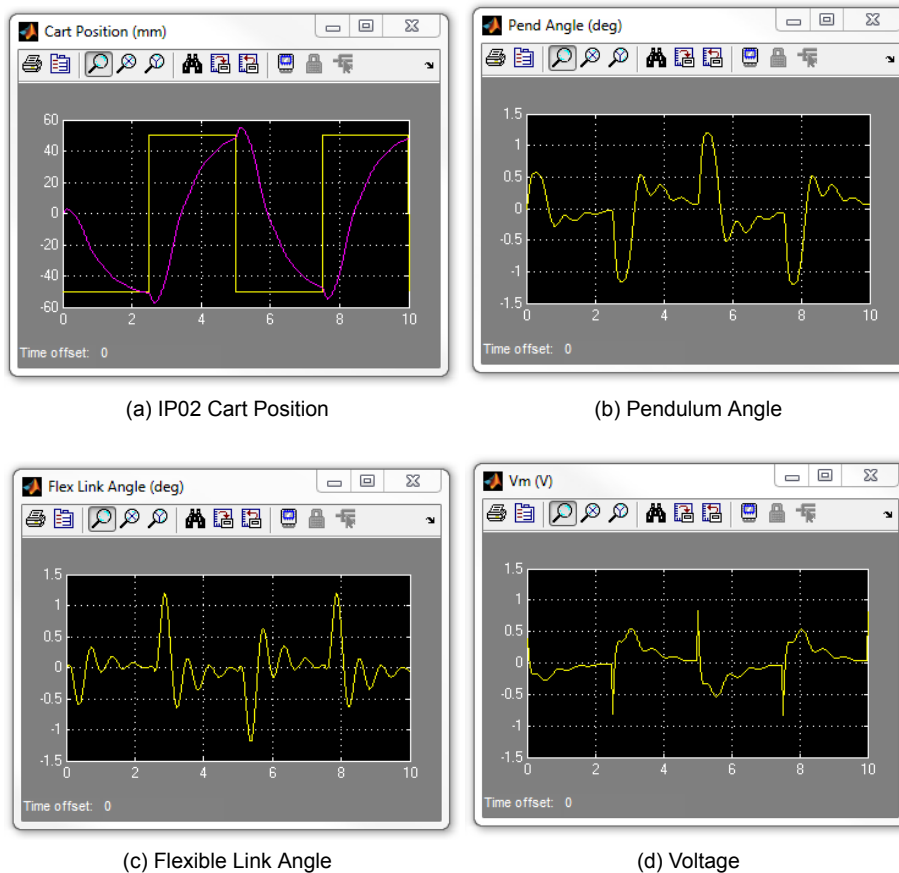

Figure 3.2: Simulated closed-loop response.
4. Open the cart position scope, *Cart Position (mm)*, the stiff pendulum angle scope, *Pend Angle (deg)*, the flexible pendulum angle scope, *Flex Link Angle (deg)*, and the motor input voltage scope, *Vm (V)*.
5. Start the simulation. The scopes should be displaying responses similar to Figure 3.2.